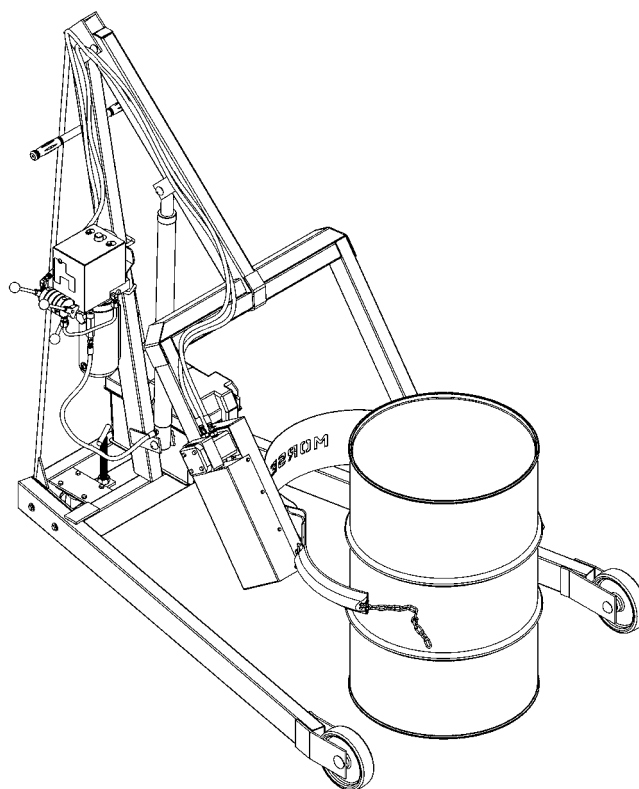

Figure 3.1
The screw-down floor lock is located on the base of the tower (figure 3.1). Turning the floor lock clockwise until it locks in the down position activates the floor lock. When the floor lock is activated it prevents unwanted free wheeling of the unit. Floor conditions determine the effectiveness of the floor lock. The operator should verify its holding action before depending on it to hold.
- 2.) Using the "LIFT" control as described in "**Machine Description - Controls**" (page 4), position drum holder assembly with back band at middle of drum (Figure 3.1). With ratchet plate swung open and cinch chain hanging from chain hook, push unit until back band rests firmly against drum. Some adjustment to tilt angle of saddle may be necessary to ensure band fits flush on drum.